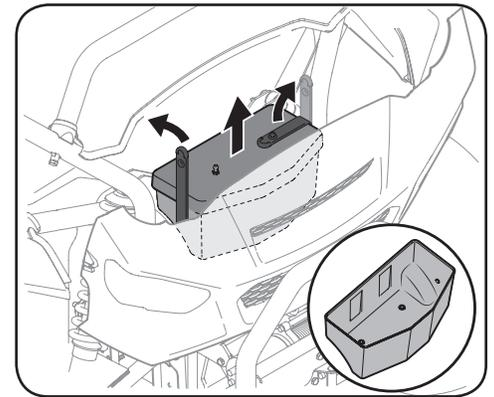

Figure 4-7
- Unhook the two rubber straps holding the top cover on and remove the top cover. See Figure 4-7.